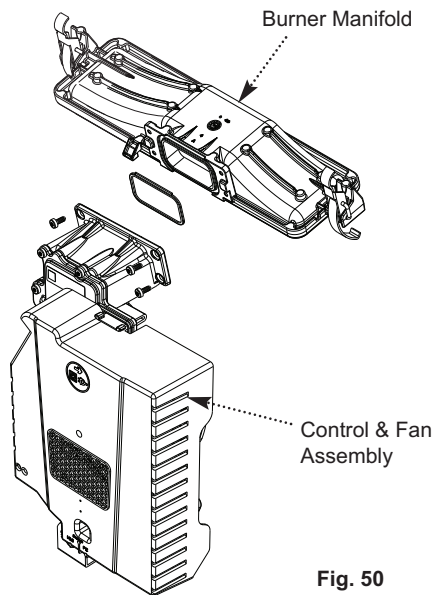

Fig. 50
10.3.11 Control & Fan Assembly (Figs. 50, 51 & 52)